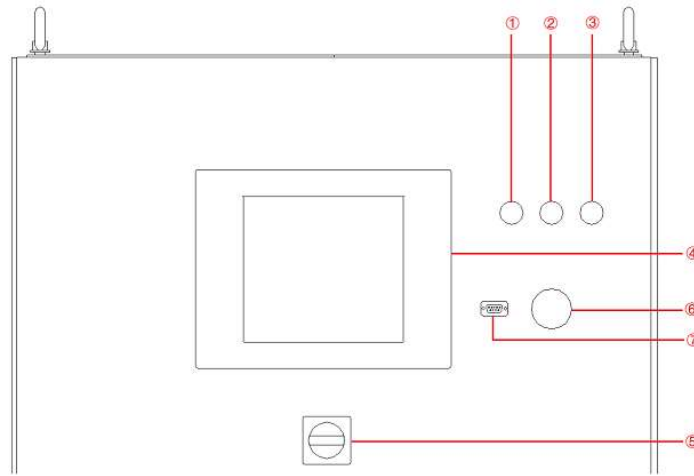
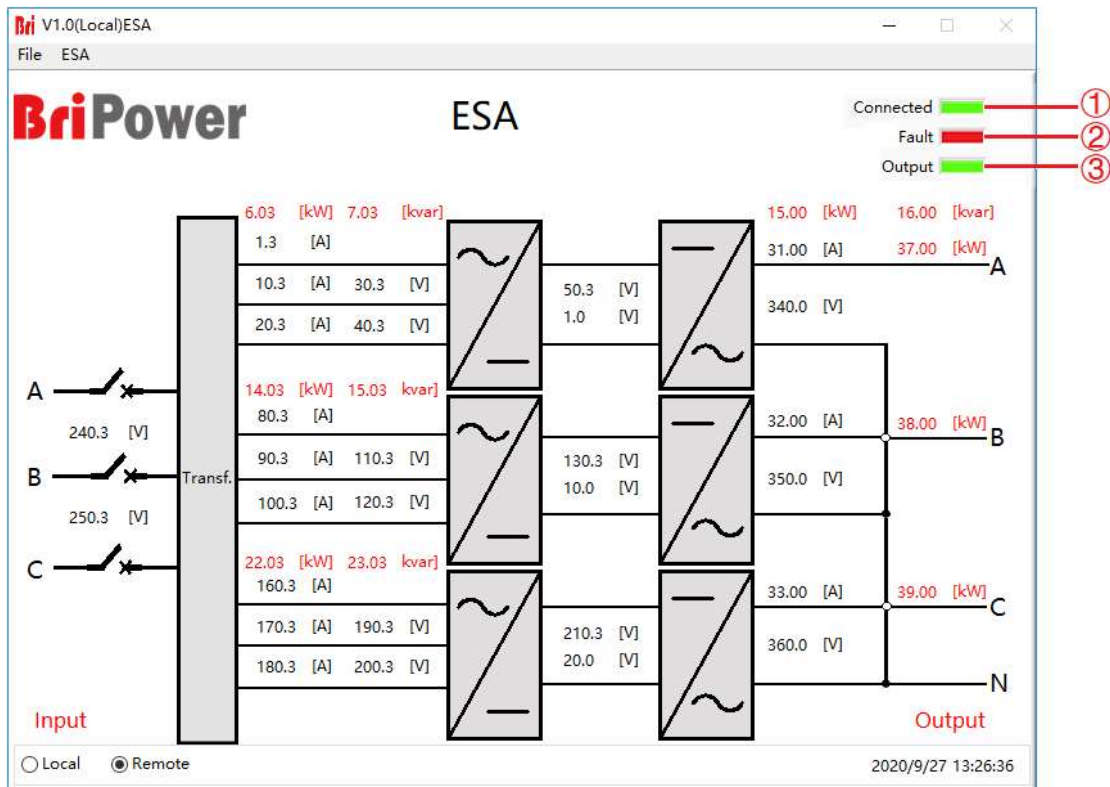

Figure 3-3 Front Panel
Figure 5-1 Main panel
Turn clockwise to close the control switch on front panel (figure 3-3 ⑤) after closing the cabinet door, the power supply is standby. If the power supply communication connection is normal, the white light is always on (figure 3-3 ①).
ESA series provides GUI software, which is installed on the front touch screen using the Windows OS. (the software can also be installed on the control PC connected to the power supply). A few seconds after the power supply is initialized, the control unit and touch screen work, the power supply is standby. If the power supply communication is normal, the white light (Figure 3-3①) and the “connected” green light (Figure 5-1①) is always on. All functions and parameters can be accessed through the TFT-Touch panel or GUI software to set up and run.
Output On	It is used for the output side on/ off, the button is green while outputting, and the green indicator of "Output" is always on (Figure 5-1③). When there is no output, the button becomes red.